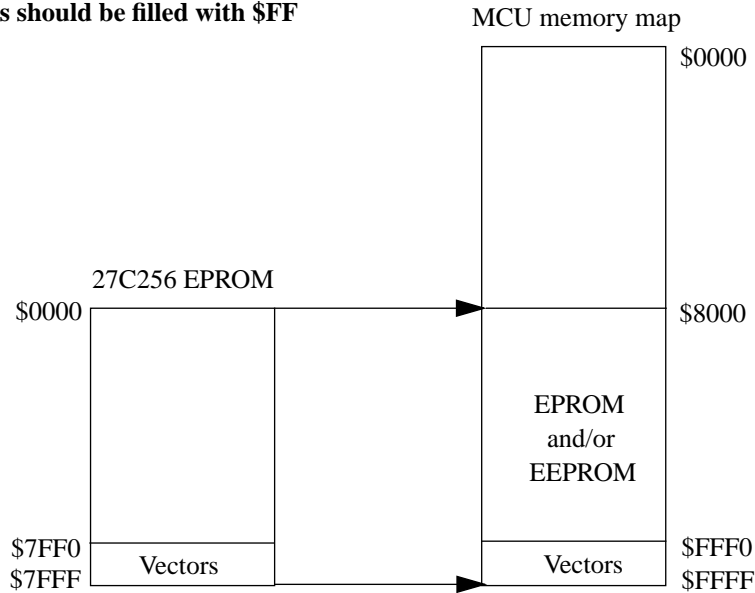

Figure 3-1 Memory mapping between 27C256 EPROM and MCU with memory map >32K
- For MCU with memory map larger than 32K bytes direct address mapping is no longer applicable. The 27C256 EPROM must contain data to be programmed into the MCU between address \$8000 - \$FFFF (32K bytes), hence location \$0000 of the 27C256 EPROM corresponding to location \$8000 of the target MCU, \$0001 of the 27C256 corresponding to \$8001 of the MCU and so on as illustrated in Figure 3-1 below.